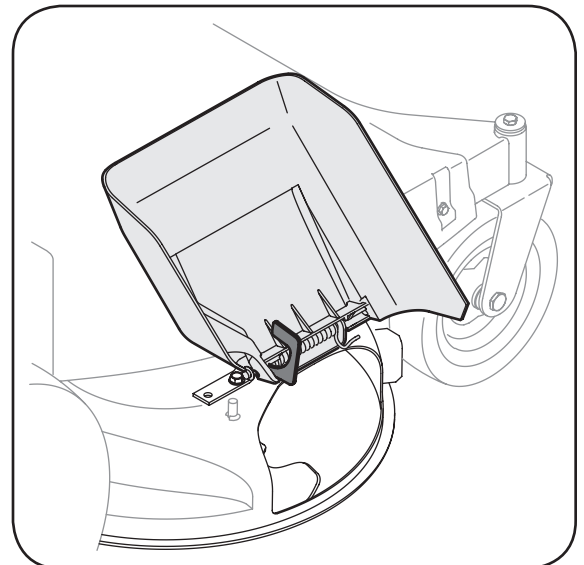

Figure 3-3: Remove the chute holder.
1. Locate the chute holder which secures the discharge chute in a vertical position, Figure 3-3.